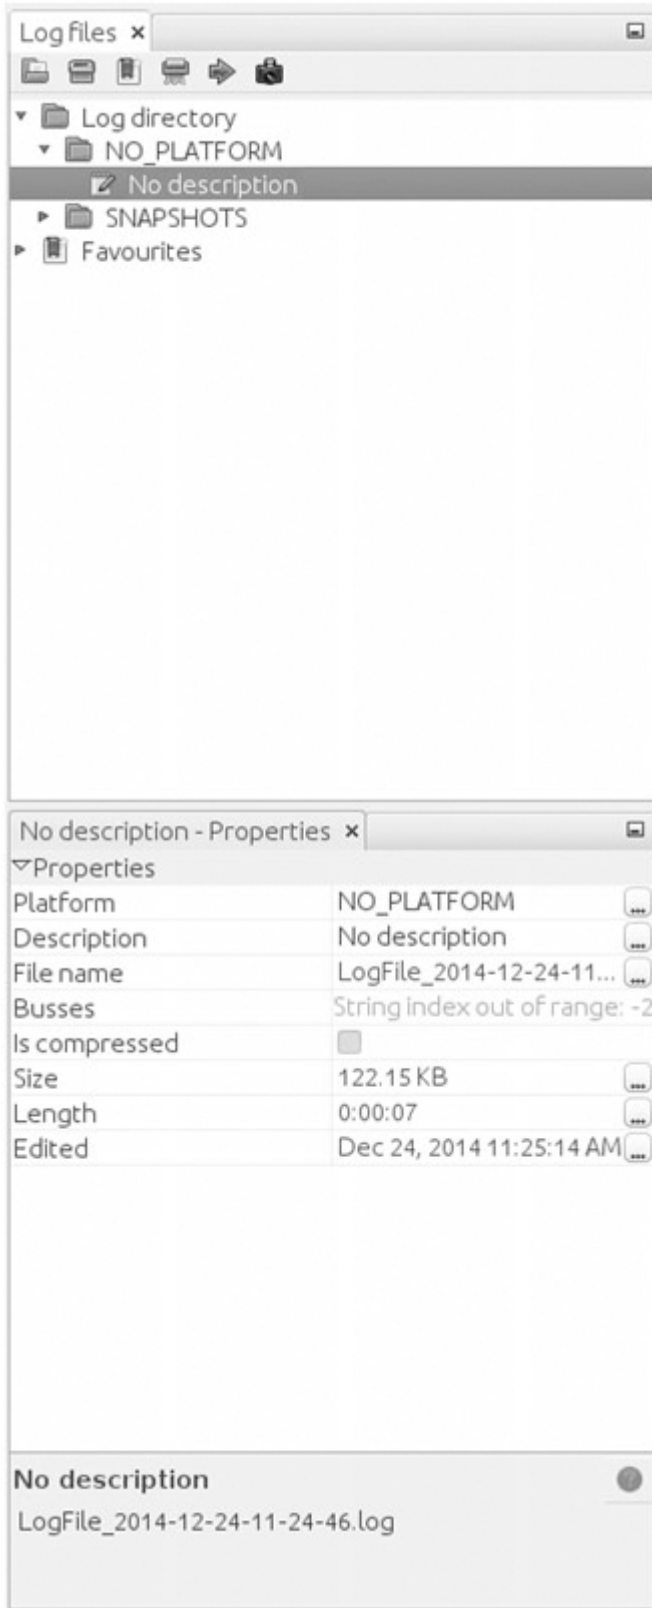

Figure 5-5: Right pane of Log files tab settings
To record CAN packets with Kayak, first click the Play button in the Log files tab ❶. Then drag one or more buses from the Projects pane to the Busses field of the LogOutput Window tab ❷. Press the Record and Stop buttons at the bottom of the LogOutput window ❸ to start or stop recording. Once your packet capture is complete, the logging should show in the Log Directory drop-down menu (see Figure 5-5).
Other than some metadata (PLATFORM, DESCRIPTION, and DEVICE_ALIAS), the log is pretty much the same as the one captured by the `can-utils` package: ❶ is the timestamp, ❷ is your bus, and ❸ is your arbitration ID and data separated by a # symbol. To play back the capture, right-click the **Log Description** in the right panel, and open the recording (see Figure 5-5).